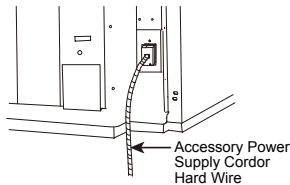

Fig.15-Power Connection
3.Connect accessory power supply cord or hard wire connector to unit connector.See Fig.15.